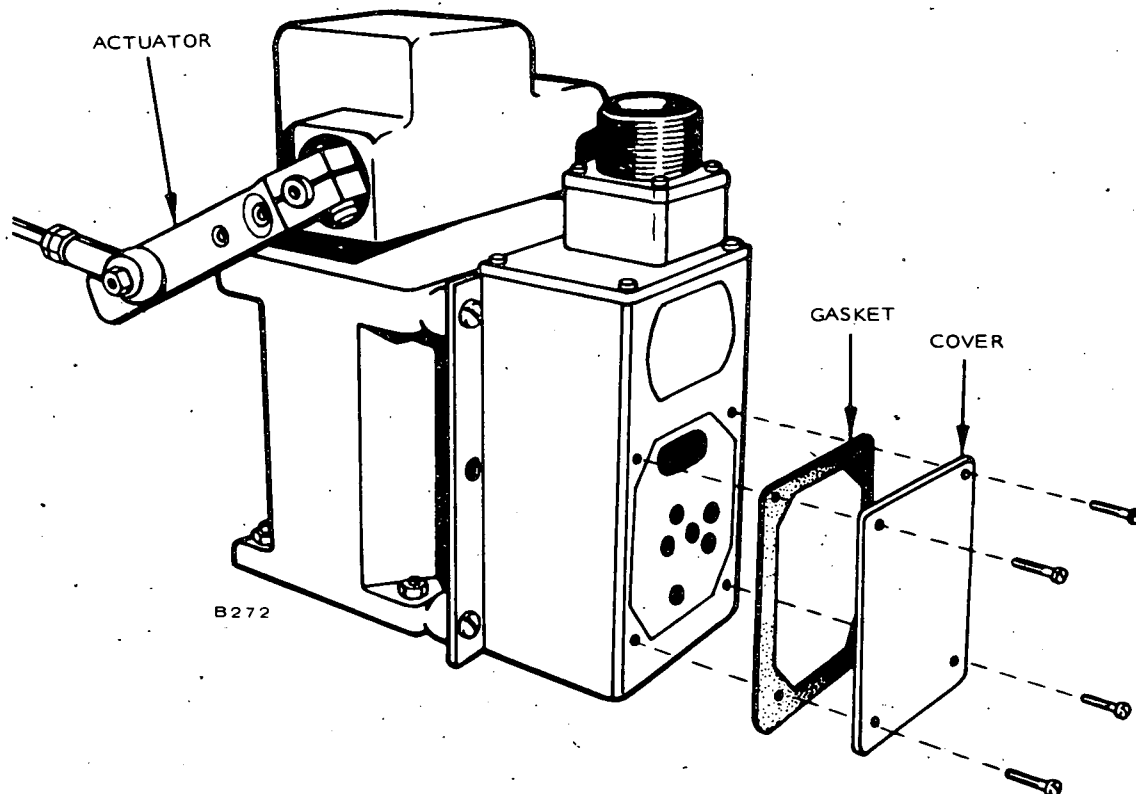

FIGURE 24. BARBER COLMAN GOVERNOR
1. Remove four screws and cover from governor controller (Figure 24).